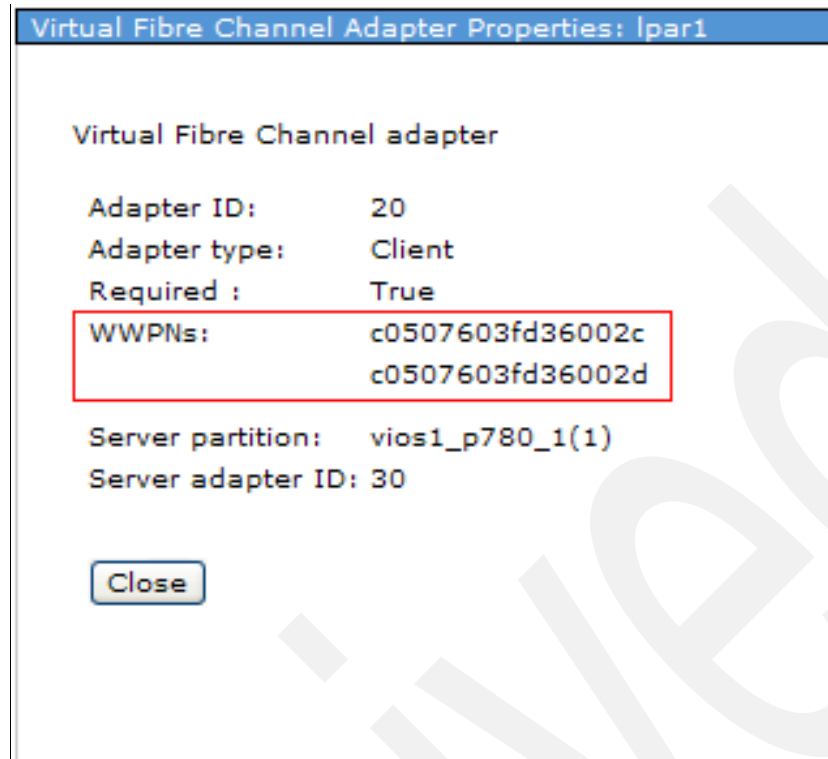

Figure 6-45 WWN configuration for a client virtual FC adapter
6. Select the Client FC adapter with which you want to work. Click **Action** → **Properties**. The window that is shown in Figure 6-45 opens.